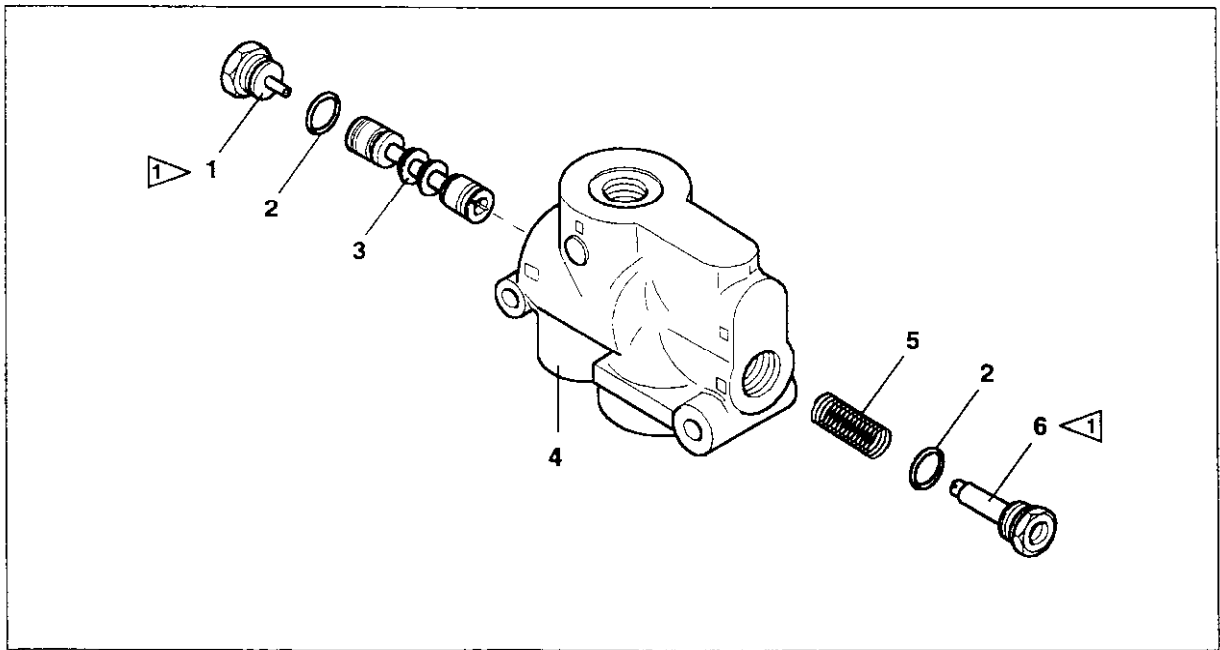

Fig. 4-12 Main priority valve
- 1) loosen plug (1, fig. 4-12) and the relevant O-ring (2) from port (PP);
- 2) loosen plug (6) and the relevant O-ring (2) from port (LS) and extract spring (5);
- 3) extract spool (3) using a nylon rod, pushing from the opposite side of the valve.
The reassembly and the installation is performed by reversing the sequence of operations above. Tighten the components to the prescribed torque, as indicated in fig. 4-12.